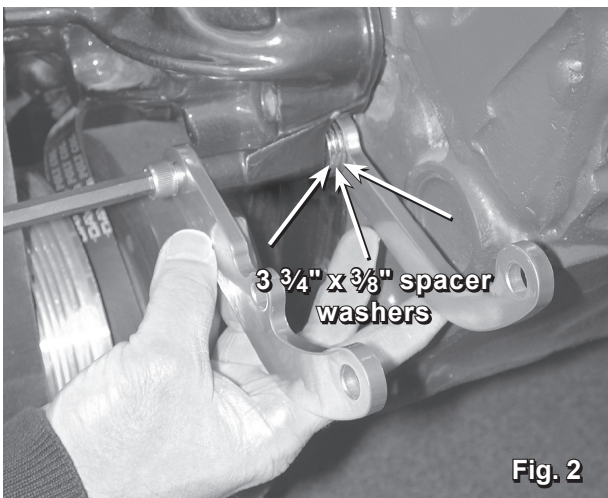

Fig. 2
2. Mount the lower support brackets that came with your kit to the water pump using the $\frac{3}{8}$ -16 x $2\frac{3}{4}$ " socket head bolt. Place three (3) $\frac{3}{8}$ x $\frac{3}{4}$ " diameter spacer washers between the water pump and the rear support bracket and start threads (fig. 2) (do not tighten at this time). Due to production variances in OEM and aftermarket water pumps the number of spacer washers required may change (read on).